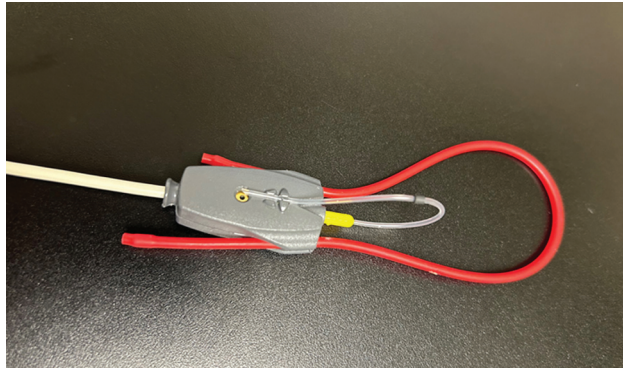

Figure 2 Probe tube (attached to the probe microphone) is placed directly over the reference microphone.
4. Position the open end of the probe tube in front of the reference microphone and press it between the two posts (see Figure 2). This is how you are bringing the two microphones (reference microphone and probe microphone) into the same space.